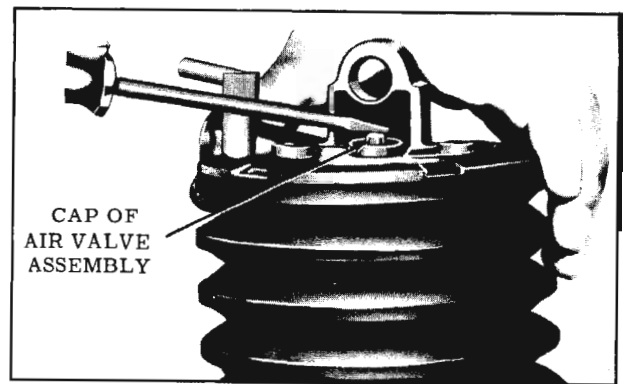

Fig. 7-129 Testing Air Valve Operation
- Remove unit from vise, invert and test air valve operation as shown in Fig. 7-129. Using the flat of a screwdriver, press air valve button inward. Two definite stages of movement should be felt. In the first stage, only the air valve control spring is being compressed; in the second stage, the resistance of the vacuum valve spring is added. The step from stage one to stage two can be felt if the valves have been correctly assembled. When pressure is released, the valve should snap back readily.